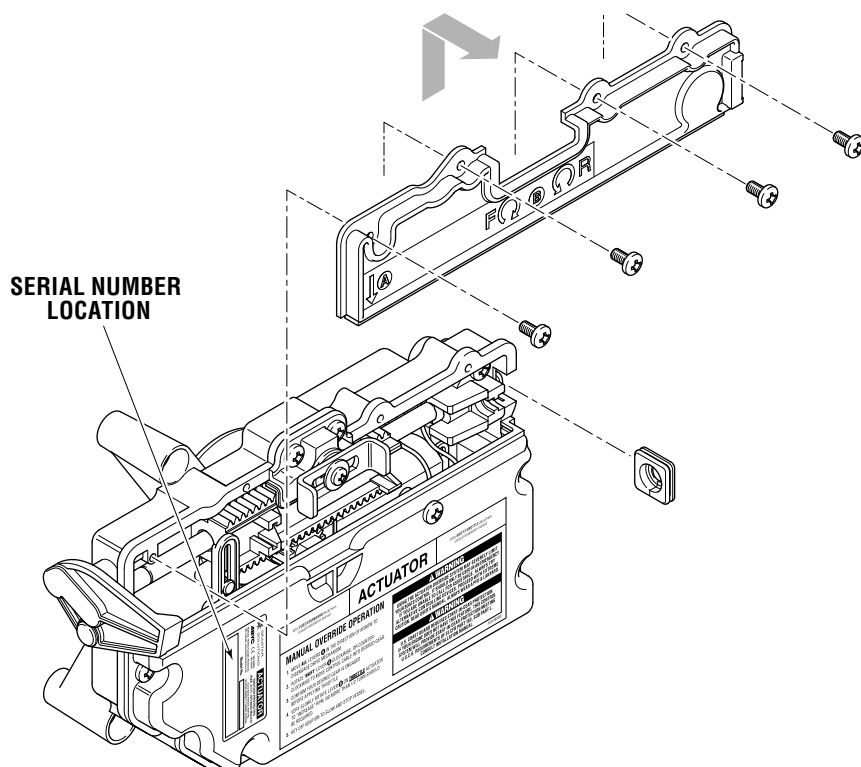

Figure 5-10. Actuator cover removal and location of serial number.
8. Remove the cable access covers (see figure 5-10) on all actuators. Do not connect the mechanical cables yet.
3. Lay the cable into the actuator and install the dust seal (E).
4. Re-install the actuator cover (See figure 5-10).
1. Lay the cable into the actuator and install the dust seal (E).
2. Re-install the actuator cover (See figure 5-10).